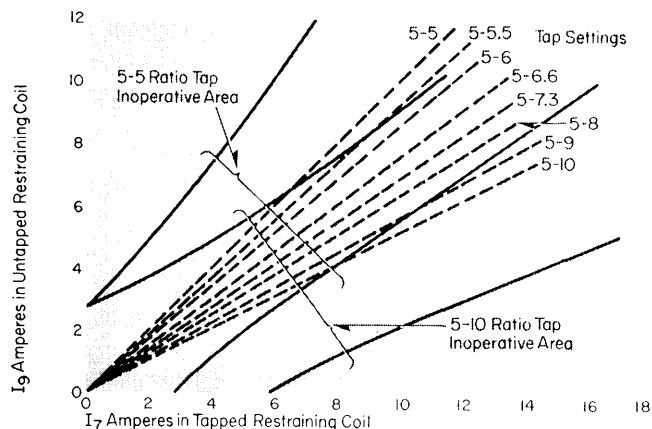

Figure 4
The operating characteristics of the CA relay for normal through load current and through fault current are shown in Figures 4 and 5. When the currents flowing into
In Figures 4 and 5 the two curves going with the 5-5 tap are tied together with a bracket to indicate that they go together. Similarly, the two curves for the 5-10 tap are also tied together. The center lines between pairs of curves are shown for all taps. The paired curves, bounding the inoperative areas, are not shown for all taps. These curves may be determined approximately by means of the following formulas:
As an example of the degree of accuracy of the formula consider the point  $I_7=43.5$ , and  $I_9=30$ ; read from the lower curve for the 5-5 tap, Figure 4. Applying the formula, equation (2), the calculated value of  $I_7$  is found to be 45 amperes, which is fairly